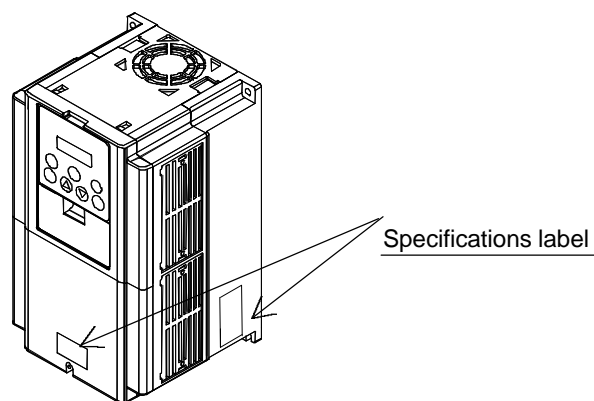

Figure 5-2(1) position of specification
specifications label. Refer to figure 5-2(1), figure 5-2(2) please.